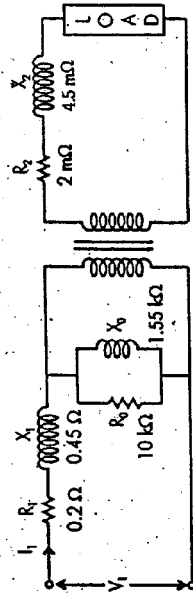

Fig. 4.15
27. The parameters of the equivalent circuit of 150 kVA, 2400/240 V transformers are as shown in the Fig. 4.15.